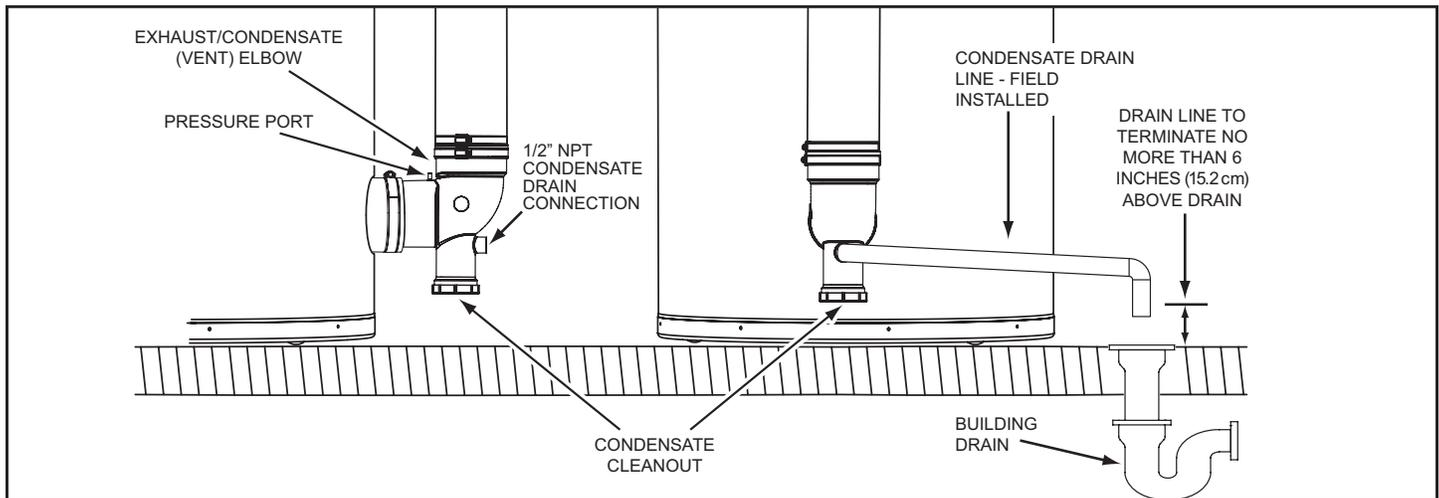

Figure 53. Condensate Drain Installation
2. Install a 1/2 inch PVC condensate drain line between condensate drain connection on the Exhaust/Condensate Elbow and a suitable building drain. The condensate line must slope to an open drain. See *Figure 53*.
3. Terminate the condensate drain piping with an elbow above the drain. Ensure that any discharge will exit the condensate drain line no more than 6 inches (15.2 cm) above a suitable building drain, or external to the building. See *Figure 53*.
4. Ensure the condensate drain line is not elevated above the condensate drain connection on the Exhaust/Condensate Elbow. See *Figure 53*.
Ensure all gas pipe is clean on the inside before installation. To trap any dirt or foreign material in the gas supply line a sediment trap must be installed as shown in *Figure 53*. The sediment trap must be readily accessible and not subject to freezing conditions. Install in accordance with the recommendations of the local gas utility company.
- Install a sediment trap as shown in *Figure 53* (page 38).
- Install a Main Gas Shutoff valve in the supply gas line as shown in *Figure 53* (page 38).
- For test pressures exceeding 1/2 psi (3.45 kPa), disconnect the water heater and its Main Gas Shutoff Valve from the gas supply piping system during testing. See *Figure 53* (page 38). The gas supply line must be capped when disconnected from the water heater.